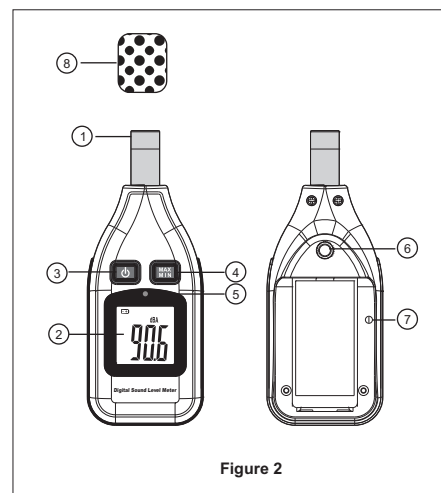

Figure 2
D. Name and functions (Figure 2)